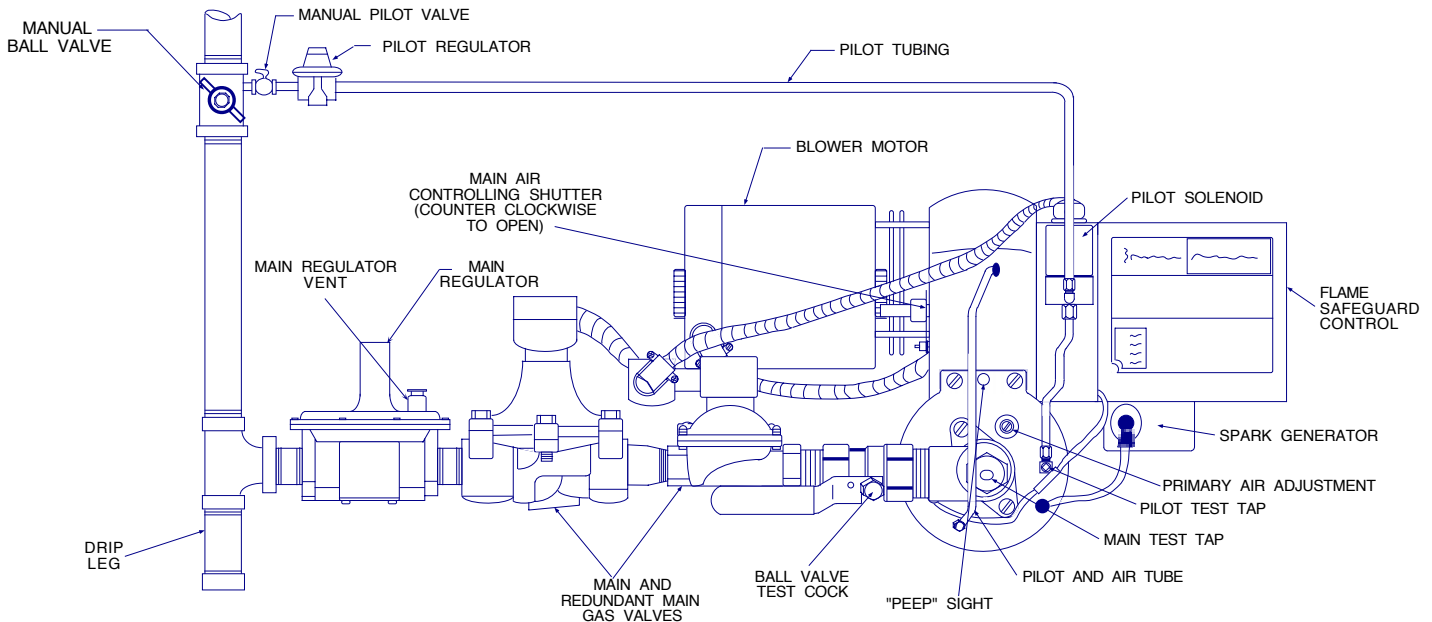

FIGURE 5 Piping Connections
⚠ CAUTION: The available gas pressure should be within the limits shown in SPECIFICATIONS section. Excessive pressure may damage electric valves, regulators and manual valves. If the supply pressure exceeds the 14.0"W.C. maximum, a suitable high pressure regulator must be installed ahead of the Main Manual Shut-Off Valve shown in Figure 5.
- Provide a sediment trap, union and 1/8" pressure tap in piping close to burner as shown in Figure 5.
- If the burner piping must be rearranged because of space limitation, be sure to carry out the general arrangement shown in Figure 5.